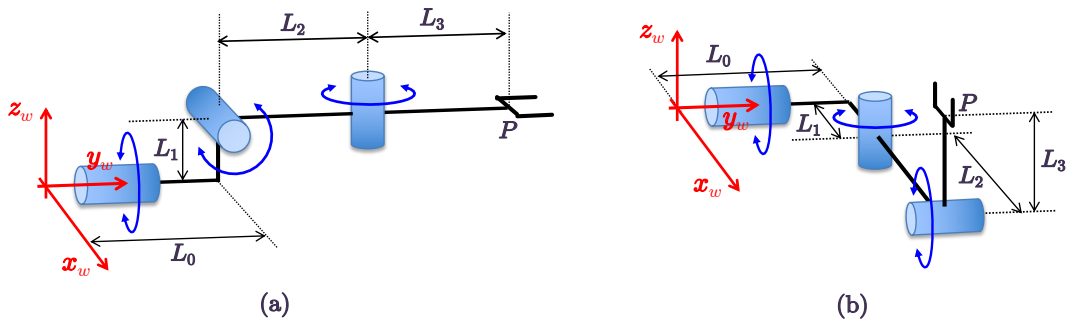
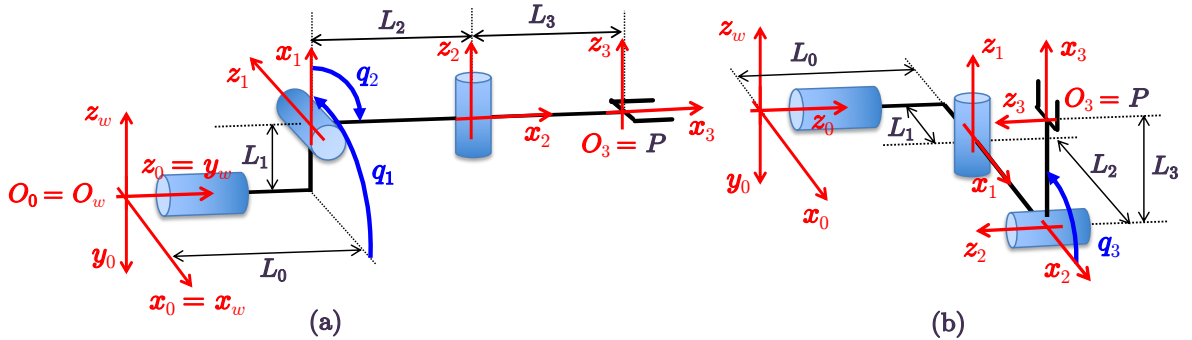

Figure 1: A spatial 3R robot in two different configurations \mathbf{q}_a (a) and \mathbf{q}_b (b).
Figure 5: Assignment of the DH frames for the spatial 3R robot, shown here for the two configurations \mathbf{q}_a and \mathbf{q}_b of Fig. 1.
Two views of a spatial 3R robot are shown in Fig. 1, together with the world reference frame RF_w . Assign the Denavit-Hartenberg frames and provide the associated table of parameters so that the configuration in Fig. 1(a) is $\mathbf{q}_a = (-\pi/2, \pi/2, 0)$ [rad] and the configuration in Fig. 1(b) is $\mathbf{q}_b = (0, 0, \pi/2)$ [rad]. The frame assignment must also include all four lengths L_0, L_1, L_2 , and L_3 defined in the figure. Compute the symbolic expression ${}^w\mathbf{p}(\mathbf{q})$ of the end-effector position P .
An assignment of the Denavit-Hartenberg (DH) frames is illustrated in the two configurations shown in Fig. 5. This assignment is consistent with the values \mathbf{q}_a and \mathbf{q}_b that joint variables should take in the configurations of Fig. 1(a) and (b). The associated set of DH parameters is given in Table 1. The origins of the DH frames 0 and 3 have been chosen coincident with the origin O_w of the world frame and with the end-effector position P , respectively. In this way, all four kinematic lengths L_i , $i = 0, 1, 2, 3$, appear in the DH table. The fourth and fifth columns in the table return the values of the joint variables for the two configurations \mathbf{q}_a and \mathbf{q}_b .